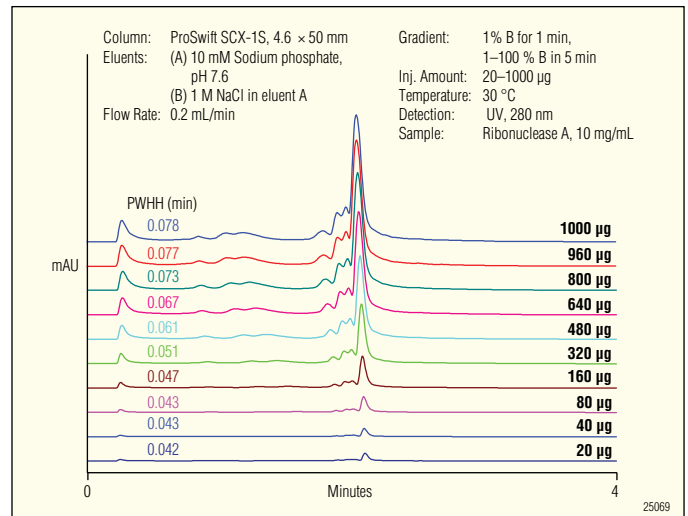

Figure 5. Dynamic loading of ProSwift SCX-1S, 4.6 x 50 mm.
- ProSwift Ion-exchange monolith columns are designed to allow a high mass loading towards preparative analysis (Figure 5).